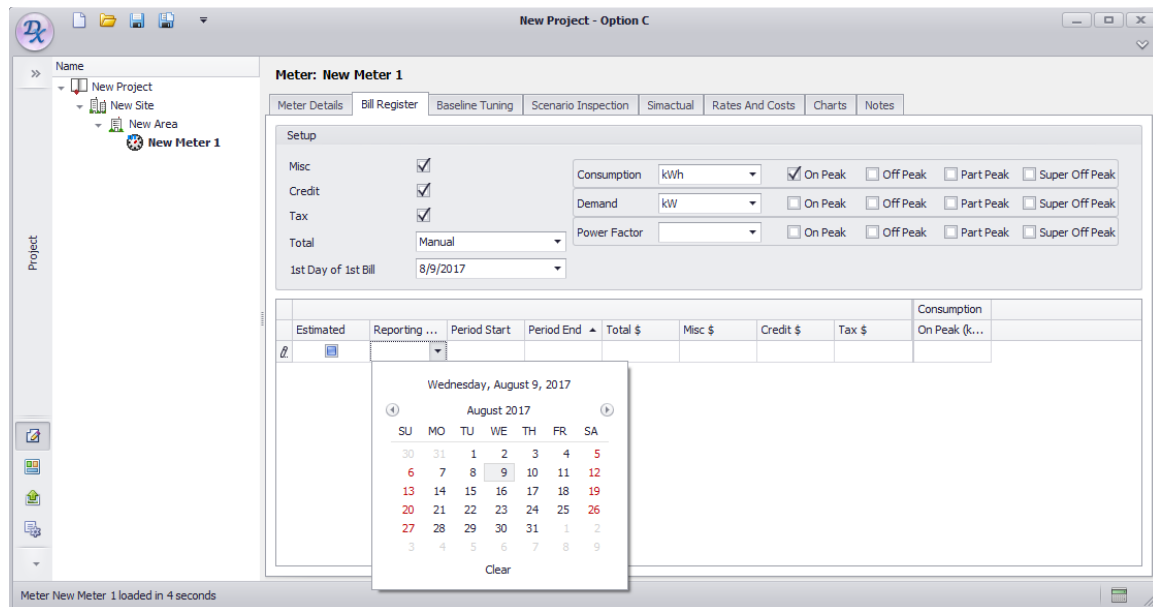

Figure 3.96: Pop-up calendar to enter Reporting Month.
- Reporting Month: The reporting month can be manually entered or selected from the pop-up calendar (see Figure 3.96).